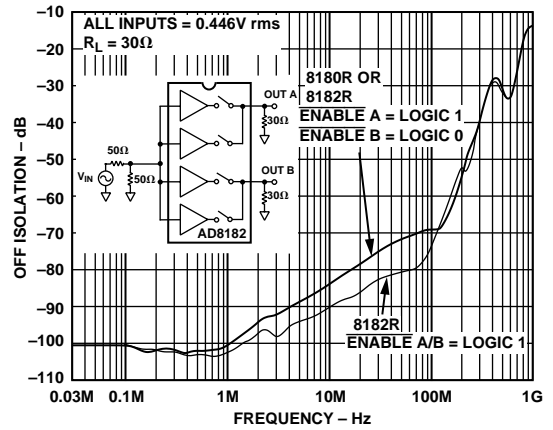

Figure 14. "OFF" Isolation vs. Frequency
- NOTE 7: Mux is disabled (i.e., ENABLE = Logic 1) and all inputs are driven simultaneously with $V_{IN} = 0.446$ V rms. Output is monitored at $f = 5$ and 30 MHz. $R_L = 30$ Ω to simulate R_{ON} of one enabled mux within a system (see Figure 14). In this mode the output impedance is very high (typ 10 M Ω), and the signal couples across the package; the load impedance determines the crosstalk.